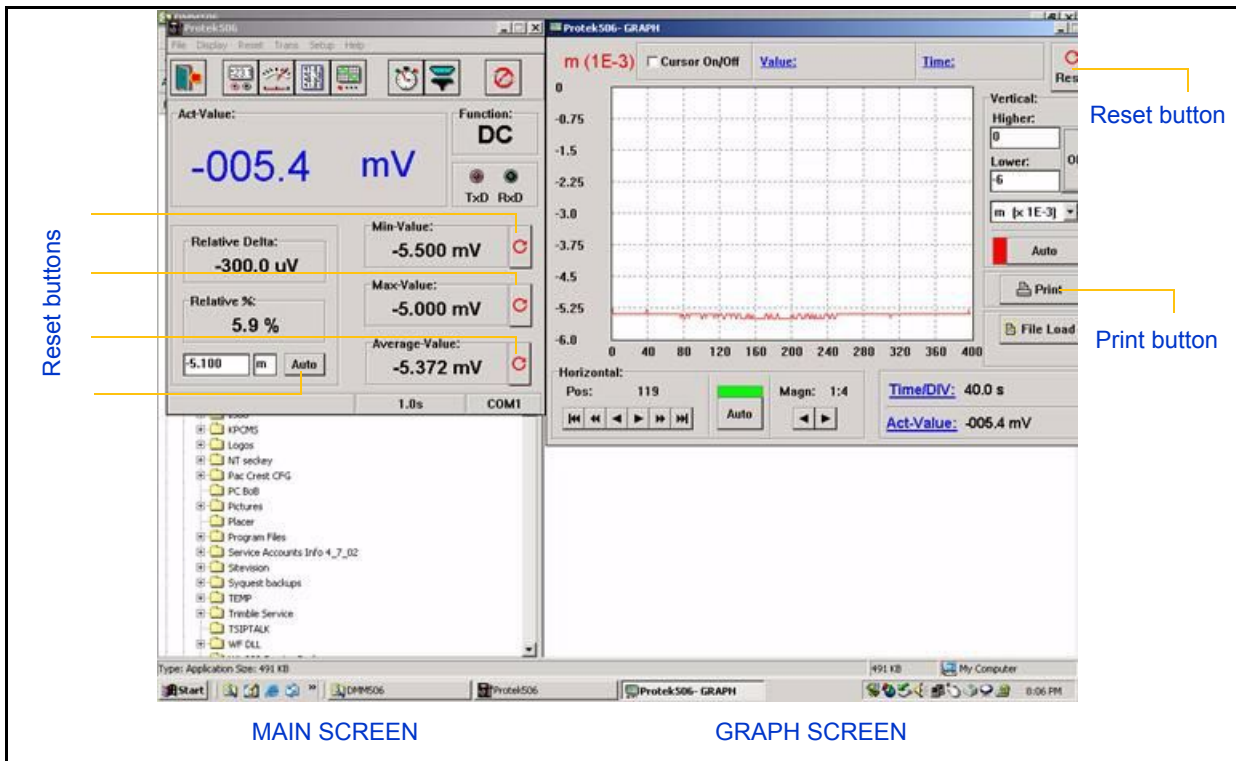

Figure A.2 Vacuum acquisition
Figure A.2 shows the screens and buttons used during vacuum testing.
10. Click the **Reset** buttons (see Figure A.2 on page 76) as follows: